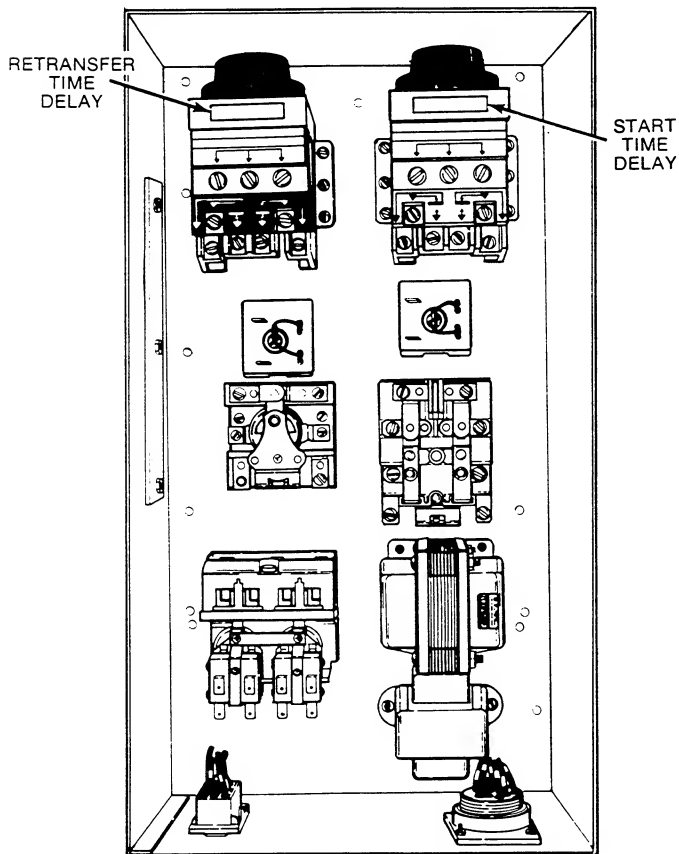

FIGURE 10. RELAY CONTROL TIME DELAYS
1. On the rear of the cabinet door, remove the control cover to expose the control components. See Figure 10.